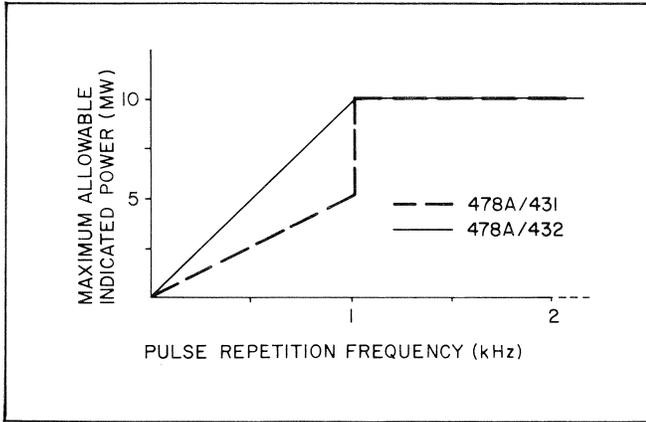

Figure 1. Maximum Power Meter Reading vs PRF for Pulses Shorter than 250 μ s
15. PULSE ENERGY AND PEAK POWER FOR 478A/432 COMBINATION. For pulses shorter than 250 μ s, energy per pulse must not exceed 10 W- μ s and peak power should never exceed 200 watts. (For example, a 40 mW, 250 μ s pulse contains 10 W- μ s of energy.) Pulses longer than 250 μ s are allowed to contain more energy but peak power must not exceed 200W. Figures 1 and 2 interpret these limits in graphical form. (For lack of space, the mount nameplate lists only a 5 W- μ s
16. PULSE ENERGY AND PEAK POWER FOR 478A/431 COMBINATION. The limitations of this combination are basically the same as the 478A/432 with the exception that at pulse repetition rates less than 1 kHz, energy per pulse must not exceed 5 W- μ s and peak power must not exceed 10 mW. These limits are also interpreted in Figures 1 and 2.